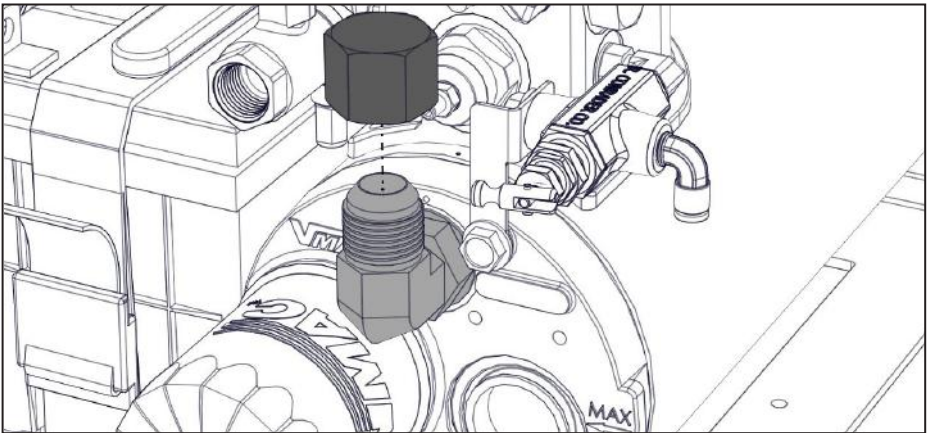

Figure 38 — Compressor oil fill
- ☐ Remove the filler cap on the WHASP Tank. Fill the WHASP Tank with VMAC compressor oil until it reaches the "MAX" mark. The air compressor system holds approximately 4 L (1 USG) of oil (Figure 38).